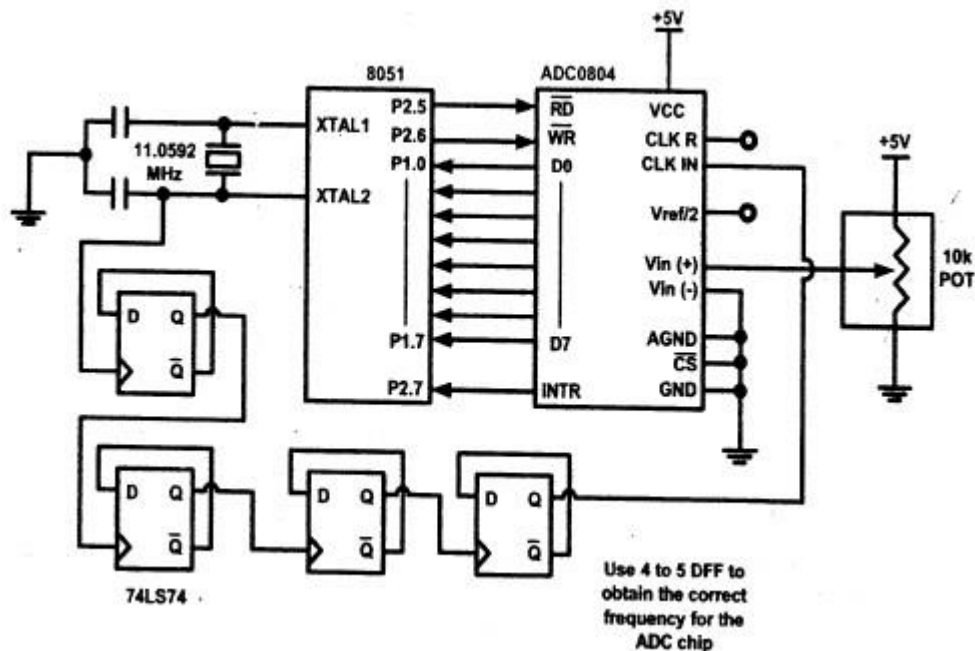

Figure 5.8 8051 Connection to ADC0804 with Clock from XTAL2 of the 8051
- In Figure 5.8, notice that the clock in for the ADC0804 is coming from the crystal of the microcontroller.